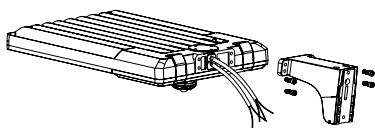

Figure 7
Step 1: Remove the bracket mounting screws on the fixture and run the wires through the bracket. (Fig. 7)